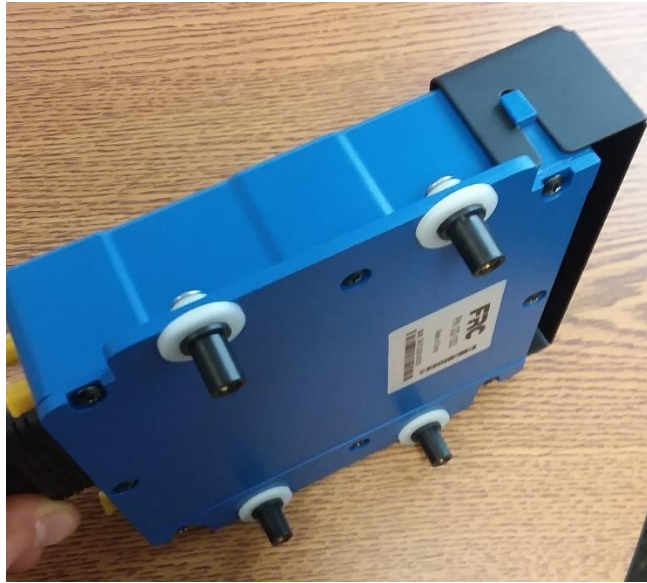

FIG 3.1
6. Install assembled FRC ECU with nylon shoulder washers, rubber well nuts and isolation washers and hand tighten screws. *See Figure 3.1*